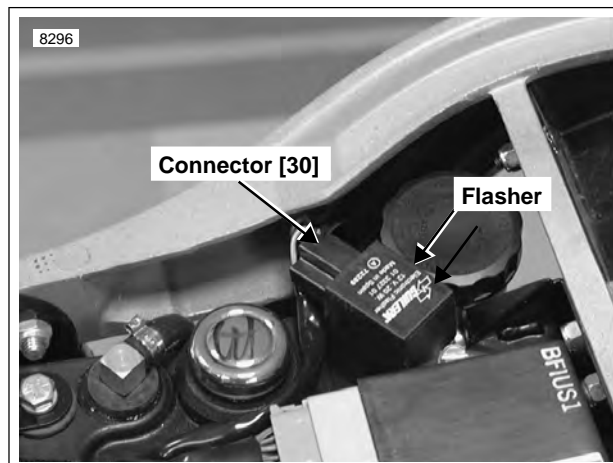

Figure 7-47. Turn Signal Flasher
1. See Figure 7-47. Remove nut, ECM mounting bolt and flasher from under seat.
1. See Figure 7-47. Attach 3-place connector [30] to flasher.